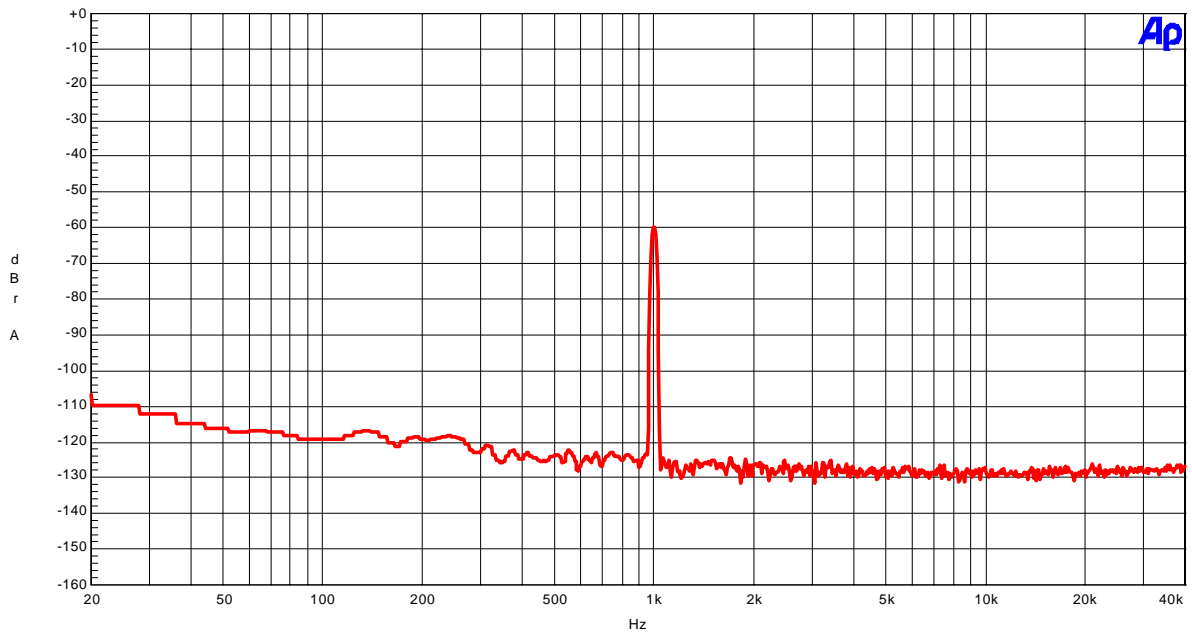

Figure 2-6. FFT (1kHz, -60dBFS)
- Figure 2-6. FFT (1kHz, -60dBFS)